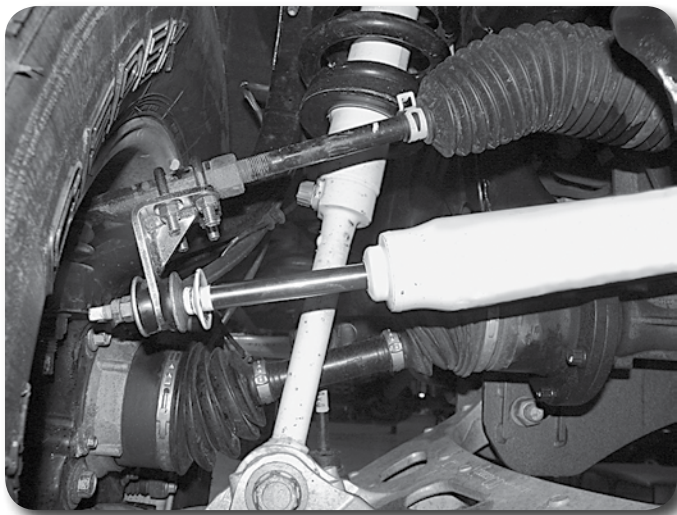

Figure 3
5. Tighten 3/8" nuts on stabilizer until bushings begin to expand, lock off jam nuts to 25 ft-lbs. Figure 3